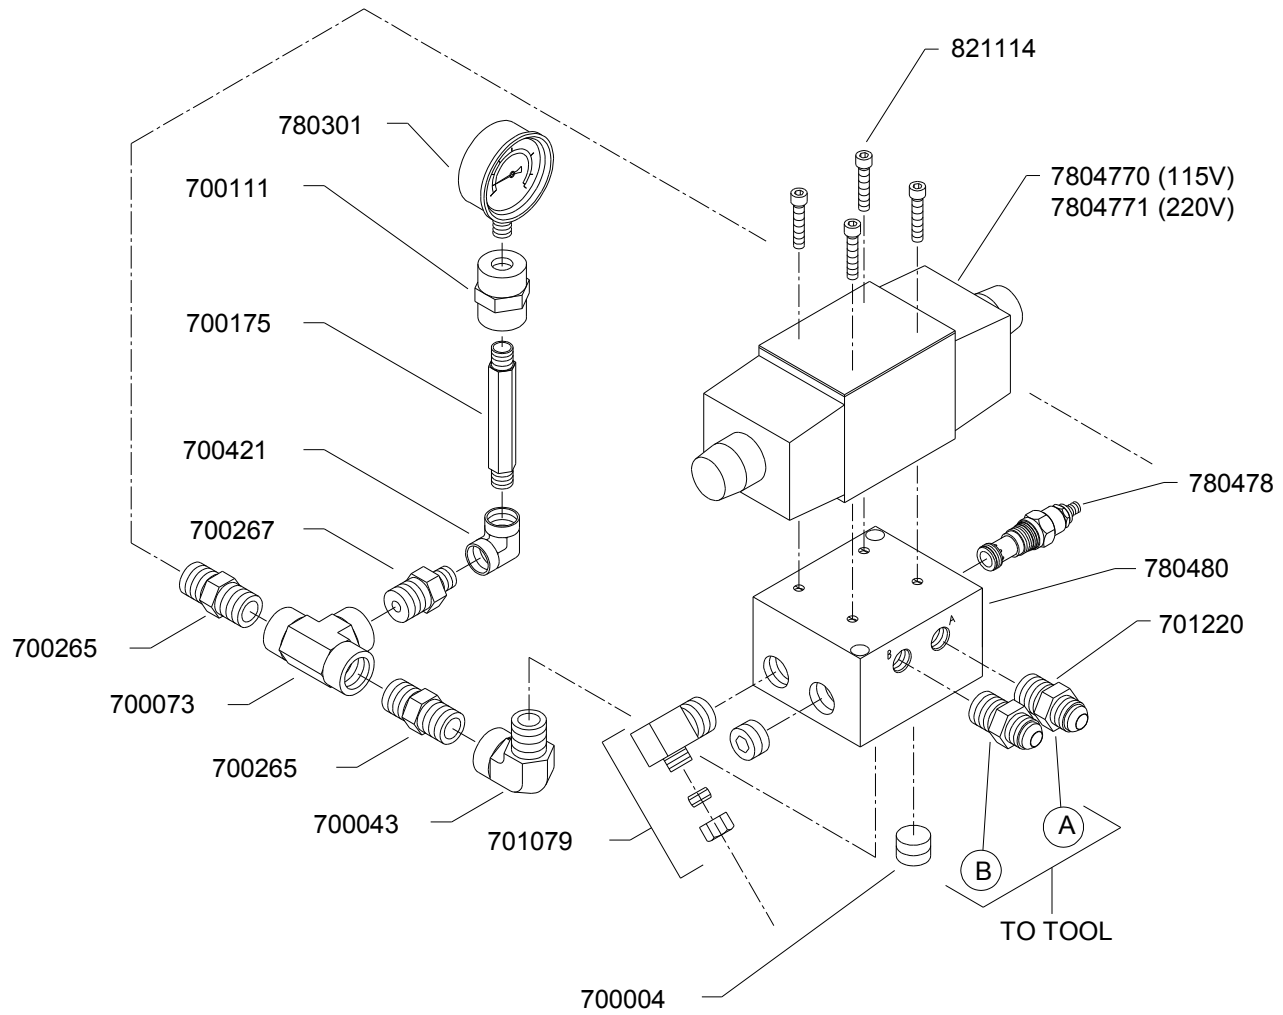

Figure 4 CONTROL VALVE
4. ATTACH HOSES AND TOOL TO THE PUMP. KENTMASTER RECOMMENDS UP TO 20 FT LONG HOSES BETWEEN TOLL AND PUMP. (CONNECTION DIAGRAM FIGURE 4 AND 5)
6. CONNECT AIR SUPPLY AND AIR LINES COMING FROM TOOL ACCORDING TO YOUR CONTROL OPTIONS. (CONNECTION DIAGRAM FIGURE 4 AND 5)